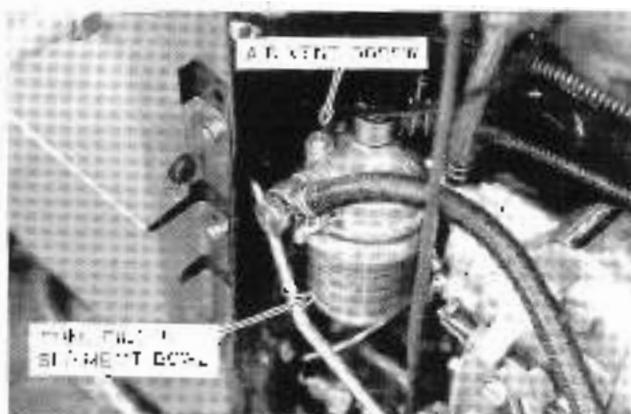

Figure 39 - Fuel Filter
1. Drain the filter assembly. Use a screwdriver and pliers to remove the filter housing. (Figure 39)
1. Disconnect the fuel lines. (Figure 39)
2. Attach the feed filter air vent screw, Figure 39, on top of the filter. Bleed the filter by attaching one piping point to piping, Figure 39, and another fitting from the filter, then attach the same to pipe.